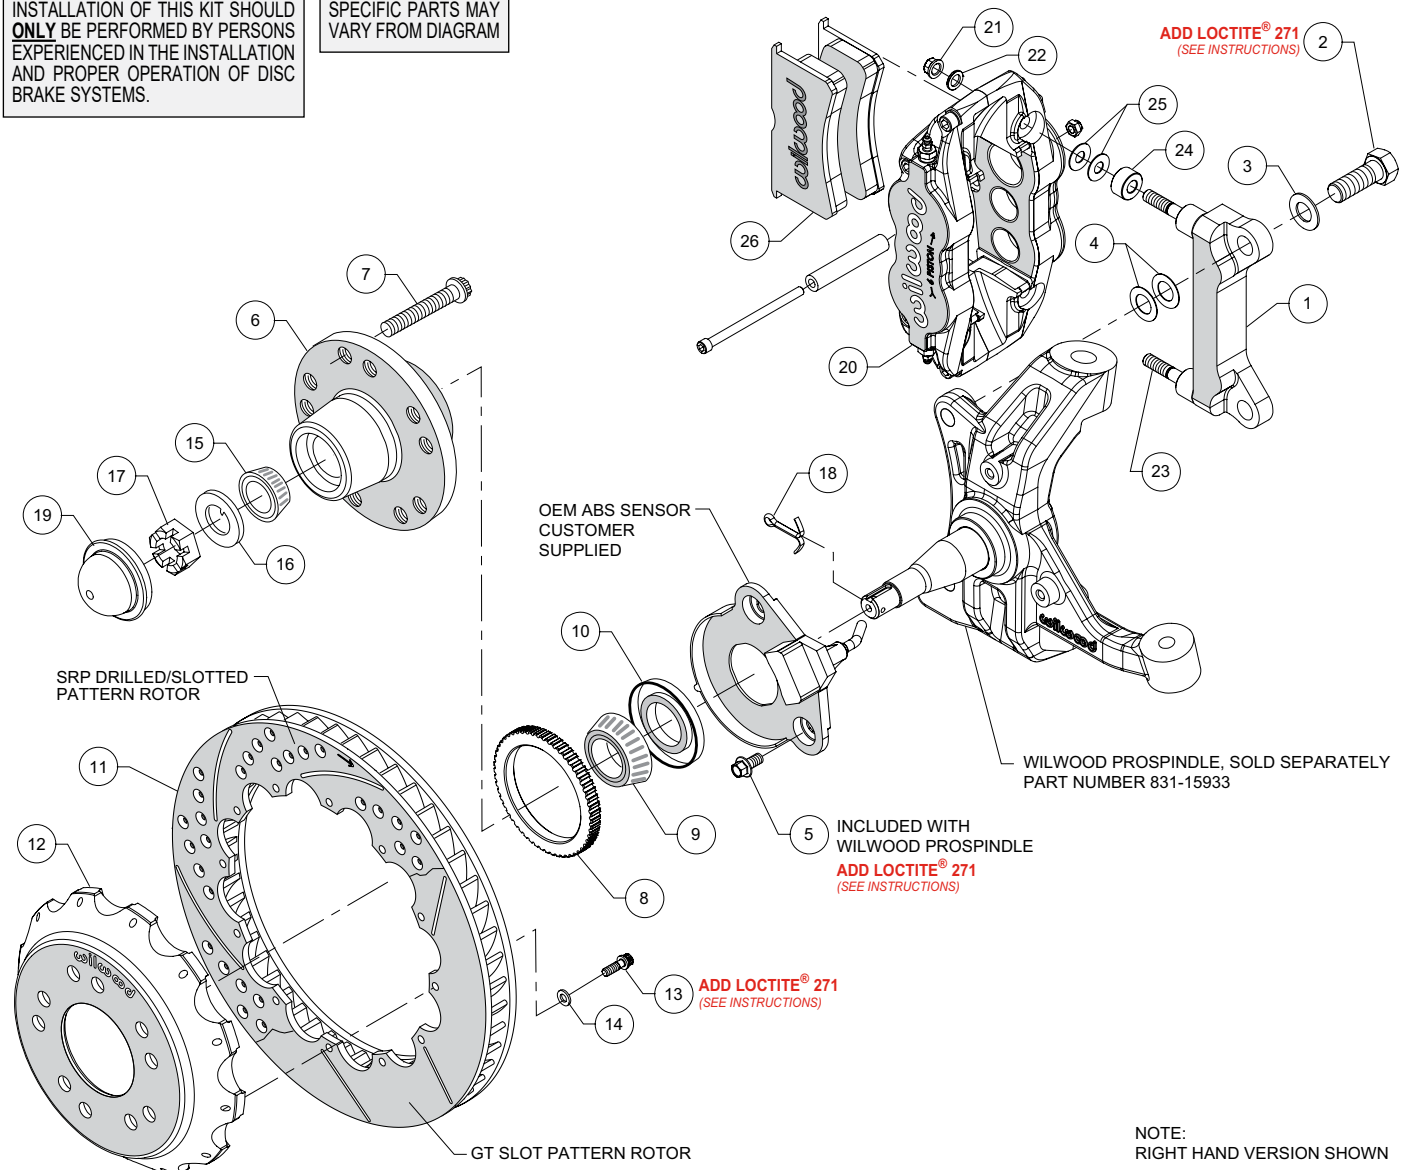
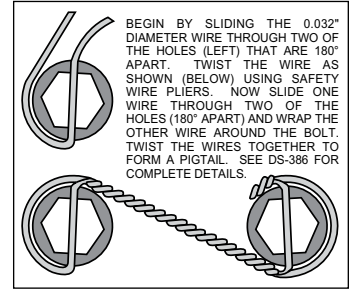

Figure 1. Typical Installation Configuration
Figure 3. Safety Wire Diagram
NOTE: Numbers in parenthesis refer to the parts list and Figure 1 on the preceding pages.
- For vehicles equipped with ABS, install the OEM ABS sensor (customer supplied) to the spindle using bolts (5) as shown in Figure 1 and Photo 3. Temporarily tighten the mounting bolts. **NOTE: The sensor must fit squarely against the mount bosses on the spindle.** Inspect for interference from casting irregularities, machining ridges, burrs, etc. Remove the bolts one at a time and apply red *Loctite*® 271 to the threads, and torque to 20 ft-lb.
- The caliper mount bracket (1) should initially be installed with clean, dry threads on the mounting bolts. Orient the bracket, as shown in Figure 1 and Photo 4, and install using bolts (2) and washers (3). Initially place two .024" thick shims (4) on each bolt between the bracket and spindle, Figure 1. Temporarily tighten the mounting bolts. **NOTE: The bracket must fit squarely against the mount bosses on the spindle.** Inspect for interference from casting irregularities, machining ridges, burrs, etc. Later, after the caliper alignment has been checked, the mount bolts will be secured using red *Loctite*® 271.
- Install wheel studs (7) into the hub (6), Photo 5. Torque to 77 ft-lb. **NOTE: There are two five lug patterns in the hub (5 x 4.75 and 5 x 5.00).** Ensure the correct hub stud pattern is being used to fit the wheel application.
- For vehicles equipped with ABS, carefully press the ABS ring (8) onto the backside of the hub (6) as shown in Figure 1 and Photo 6.
- Pack the large inner bearing cone (9) with high temperature disc brake bearing grease (available from your local auto parts store) and install into the backside of the hub (6), Photo 7.
- Install the grease seal (10) by pressing into the backside of the hub (6), flush with the end of the hub, Photo 7.
- Press the dust cap (19) into the hub (6). **NOTE:** Do not hammer center of cap. Install using outer flange only.
- Orient the rotor (11) and the hat (12) as shown in Figure 1 and Photo 9. Attach rotor to hat using bolts (13) and washers (14). Apply red *Loctite*® 271 to the bolt threads and torque to 155 in-lb using a criss-cross pattern. For an added measure of security, the bolts may be safety wired using standard 0.032 inch diameter stainless steel safety wire as shown in Figure 3. Refer to Wilwood's data sheet DS-386 (available at www.wilwood.com/Pdf/DataSheets/ds386.pdf) for complete safety wire installation instructions.
- Slide the hat/rotor (12 and 11) onto the hub (6), Photo 10. **NOTE:** The hat must fit flush against the hub face or excessive rotor run out may result. Install three lug nuts (finger tight) to keep the hat/rotor in place while continuing with the installation.
- NOTE:** This kit contains distinct right and left hand calipers that must be mounted in a specific direction, as described below. Initially place two .035" thick shims (25) and one spacer (24) on each stud between the caliper and the bracket, as shown in Figure 1 and Photo 11. Mount the caliper (20) onto the bracket (1) using lock nuts (21) and washers (22), Figure 1. Temporarily tighten the lock nuts. Ensure that the caliper is mounted so that the largest pistons are at the rotor exit end of the caliper, in relation to the direction of rotor rotation. View the rotor through the top opening of the caliper. The rotor should be centered in the caliper, Photo 12. If not, adjust by adding or subtracting shims (4) between the bracket and the spindle. Always use the same amount of shims on each of the two mounting bolts. Once the caliper alignment is correct, remove the bracket mounting bolts one at a time, apply red *Loctite*® 271 to the threads, and torque to 140 ft-lb.